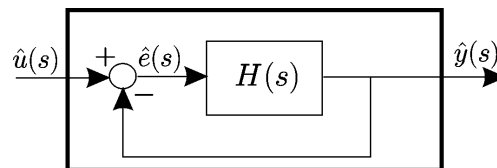

Figure 4.5: Looped system
3) Let us loop the system  $H(s)$  as shown on Figure 4.5.